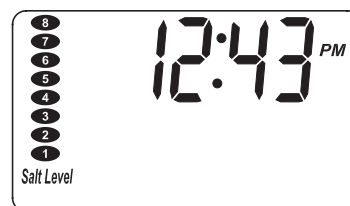

FIG. 21
3. Press the SET SALT LEVEL button until black ovals correspond to the salt level number (See Figure 21). At level 2 or below, the "Check Salt Level" LED indicator will flash.